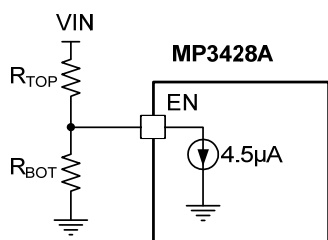

Figure 2: V_{IN} VULO Program
The MP3428A features a programmable UVLO hysteresis. When powering up, EN sinks a 4.5μA current from the upper resistor, R_{TOP} (see Figure 2). VIN must increase in voltage to overcome the current sink. The VIN start-up threshold is determined by Equation (2):